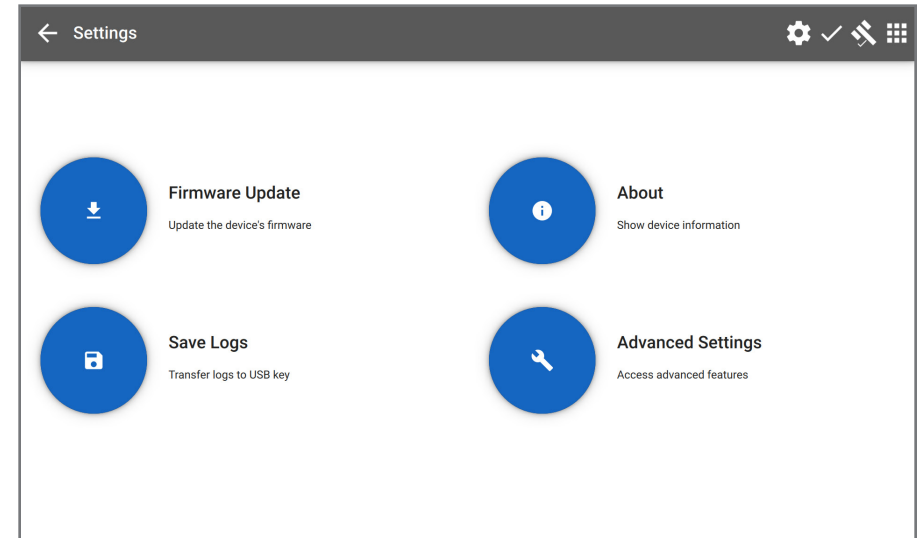

Fig. 2-14: Settings main menu screen.
- From the main menu, tap Settings. The main settings window should appear (Fig. 2-14). Tap Firmware Update to open the firmware update window (Fig. 2-15).